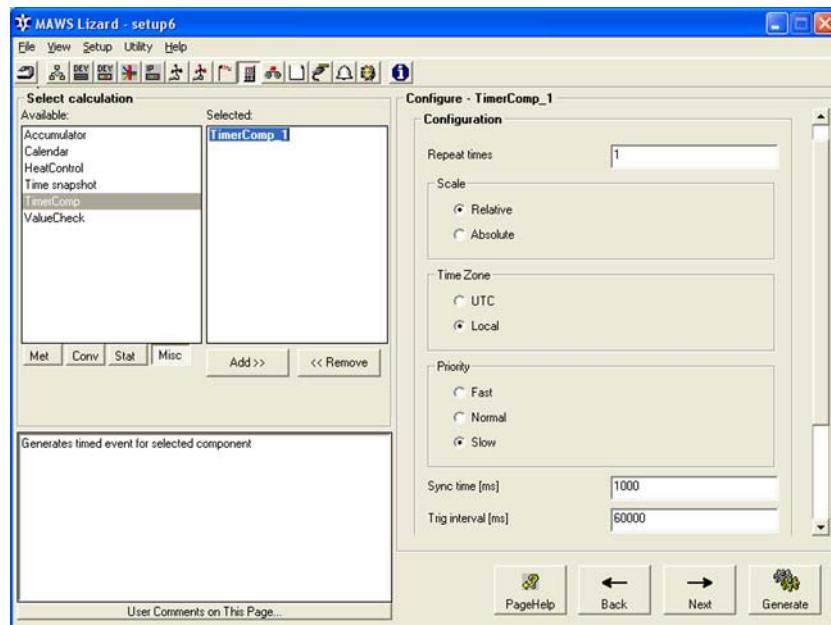

Figure 78 Calculations View: Configuring Timer Option
1. In the **Calculations** view, click **Misc** to list the available options; see Figure 78 on page 165.